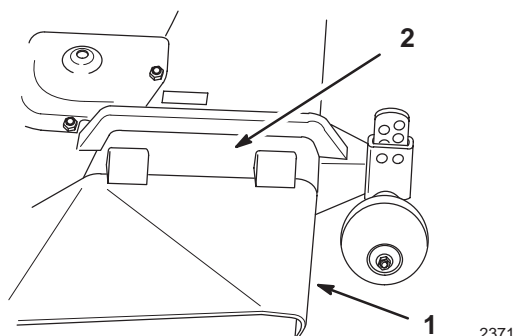

Figure 4
1. Remove the backing paper and apply decal to the discharge side of the mower (Fig. 4). Smooth it from the center to the edges to remove any air bubbles.